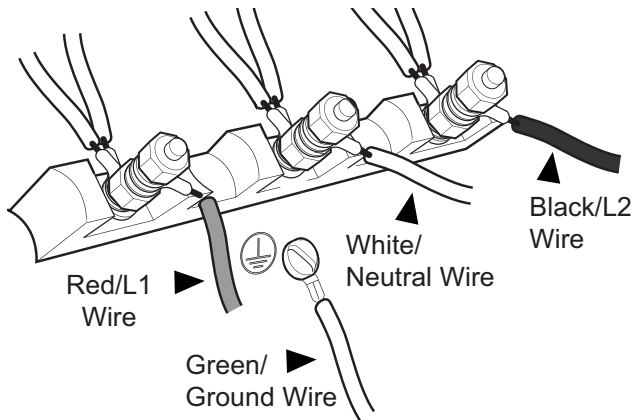

Figure 12: 4-Wire Connection
4. Secure the neutral, grounded wire of the supply circuit, to the center stud of the terminal block with nut (see *Figure 12*).